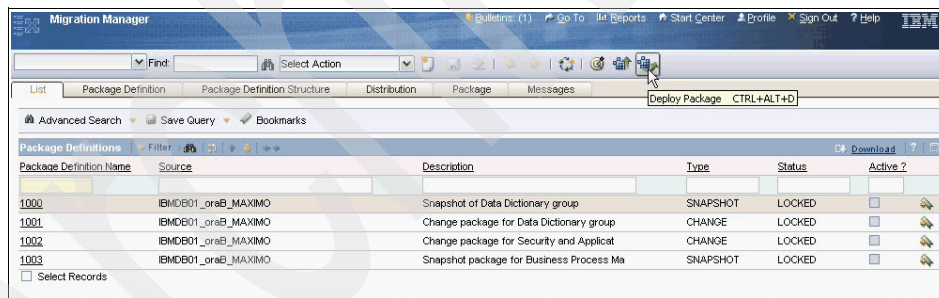

Figure 8-47 Deploy package
- Click the **Deploy Package** button, as shown in Figure 8-47.